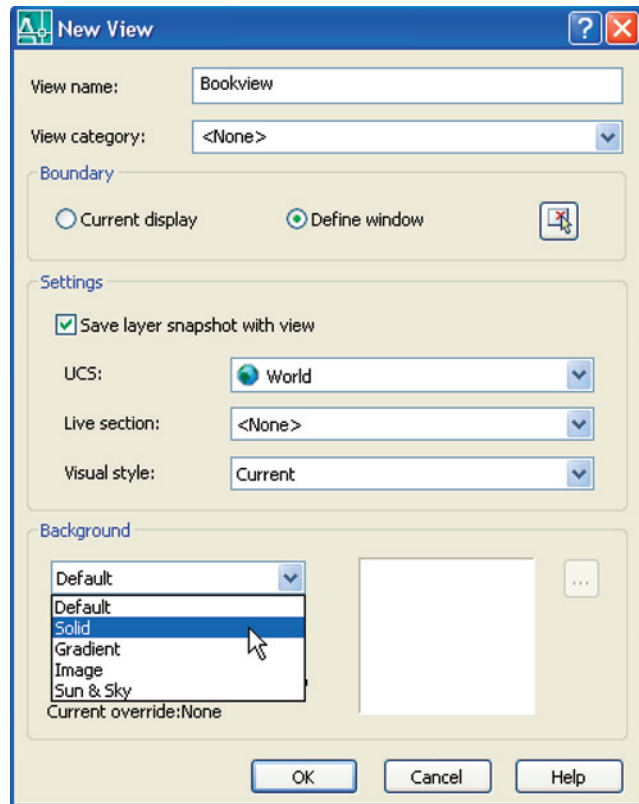
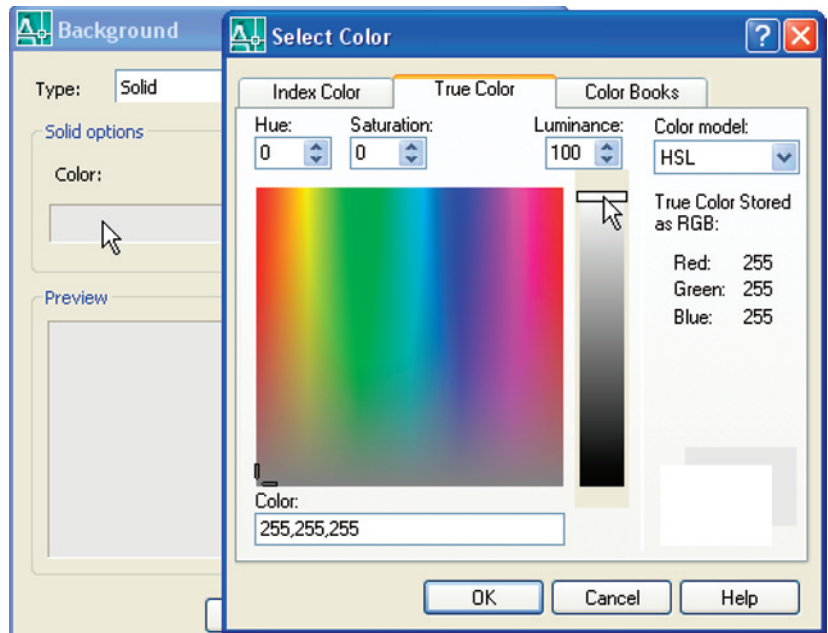

Fig. 16.10 The **New View** dialog
Fig. 16.11 The **Background** and **Select Color** dialogs
2. The **New View** dialog (Fig. 16.10) appears. *Enter Bookview* (or similar) in the **View name** field. In the **Background** popup list *click Solid*. The **Background** dialog appears (Fig. 16.11)
3. In the **Background** dialog *click* in the **Color** field. The **Select Color** dialog appears (Fig. 16.11).